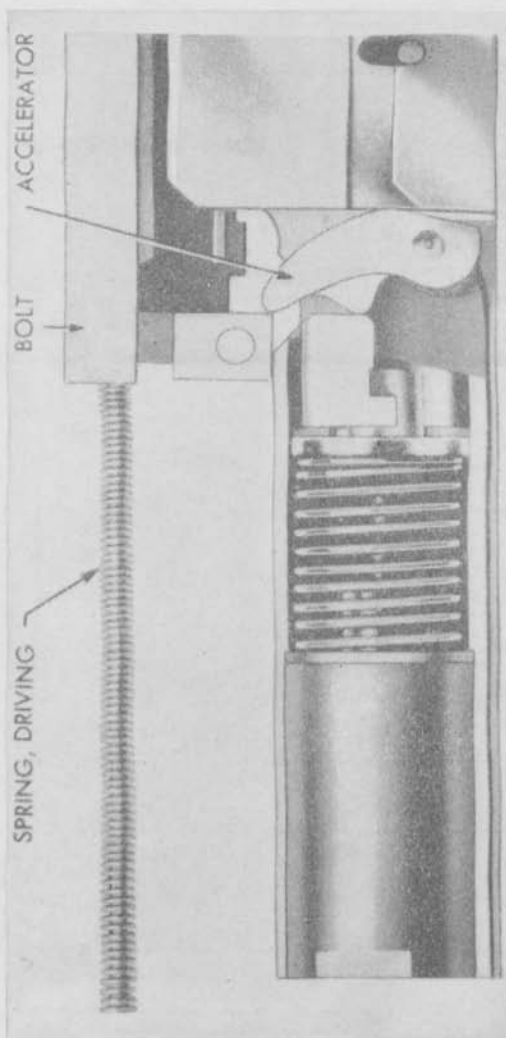

FIGURE 31.—Action of bolt on accelerator.
■ 73. COUNTERRECOILING.—After completion of the recoil stroke, the bolt is forced forward by the energy stored in the driving spring and the compressed buffer disks. When the bolt has moved forward about 5 inches, the tip of the accelerator is struck by a projection on the bottom of the bolt. (See fig. 31.) This rolls the accelerator forward.